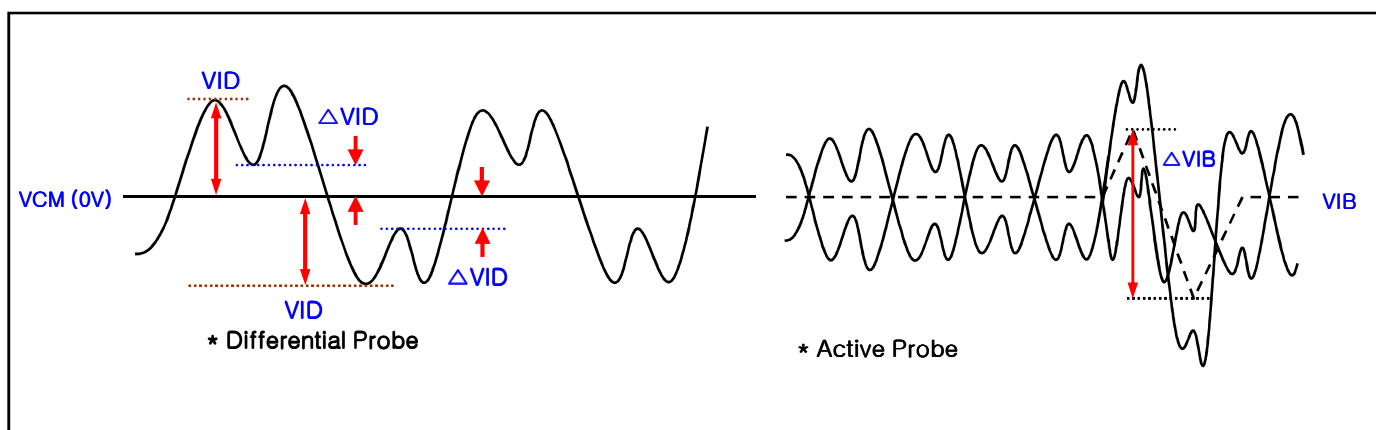

FIG. 2 Description of VID, ΔVIB , ΔVID
5. In case of mini-LVDS signal spec, refer to Fig 2 for the more detail.